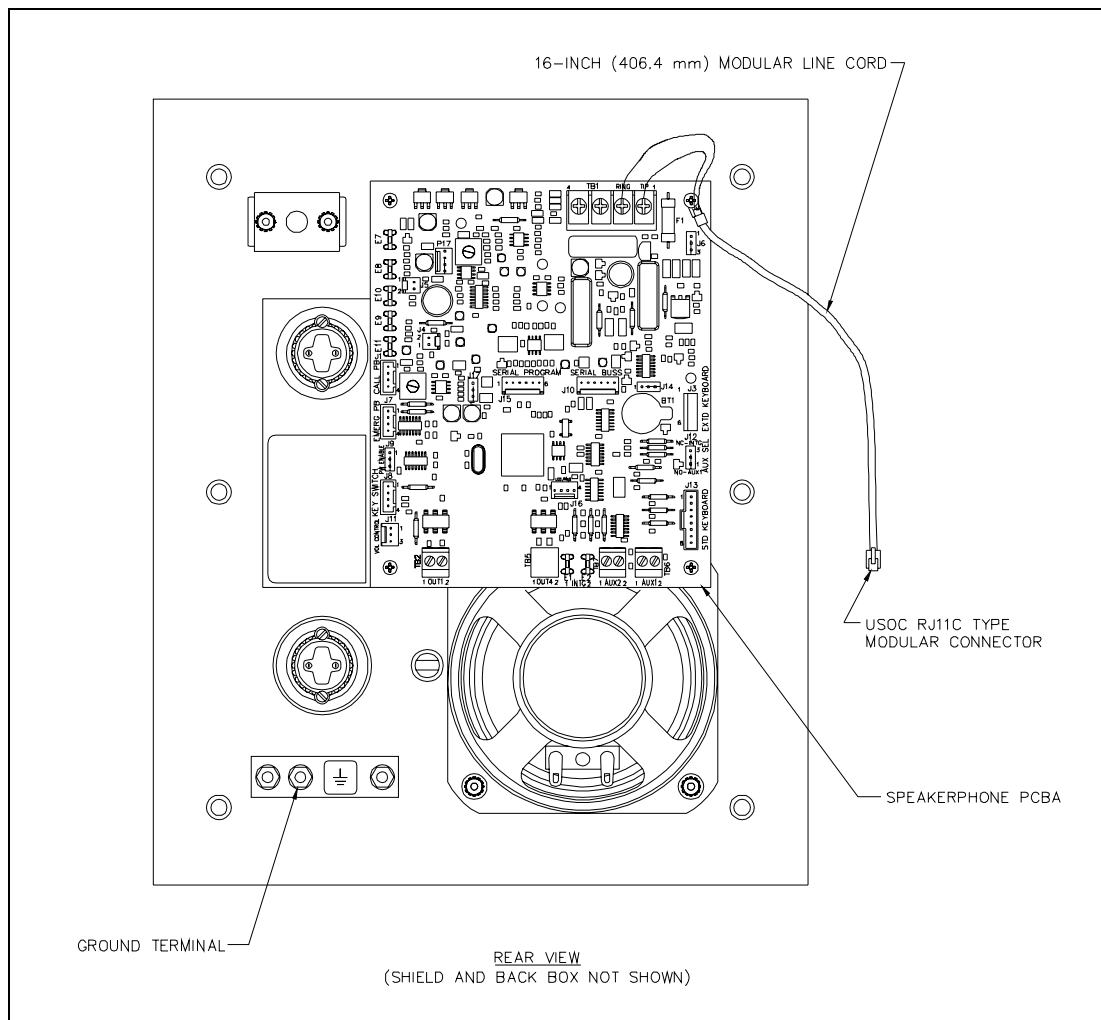

Figure 2. Model 297-001 and 298-001 Printed Circuit Board Detail
1. Align the holes in the four corners of the new PCBA with the standoffs in the telephone, maintaining proper orientation. See Figure 2.